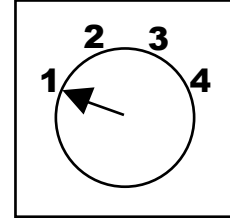

Figure 1 – 4 Voltage Setpoints
1. Before installing, turn regulator over and select appropriate voltage setpoint for battery type (See Table 1 and Fig. 1).